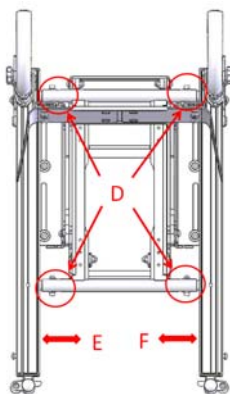

Figure 5-81
5.3.5.12 Use the #5 Allen Key Wrench to remove the screws D. Move part E and F inwards or outwards to adjust the seat width in order to meet user's needs. Re-tighten all screws. (Figure 5-81)